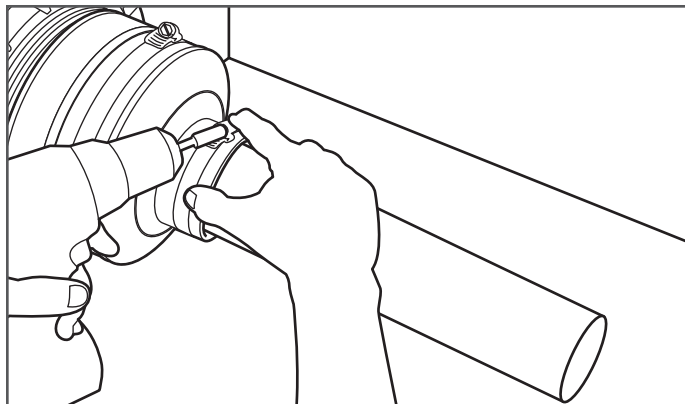

Figure 23-12
10. Use a 5/16" Nut Driver/Drill to tighten the band clamps (Figure 23-12).